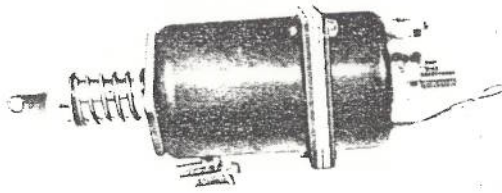

Fig. 10-98
- (1) Turn loose the terminal nut on the terminal M of the magnet switch and then, remove the connecting plate from the starter. Then slacken the two bolts fastening the magnetic switch to the gear case. (See Fig. 10-98)